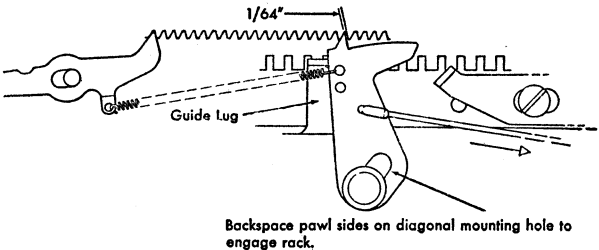

Figure 55. Backspace Guide Lug Adjustment
3. **BACKSPACE PAWL GUIDE LUG.** Form this to the left or right so as to guide the pawl into the escapement rack with about $1/64''$ clearance between the working side of a tooth on the pawl and the escapement rack tooth (Figure 55).